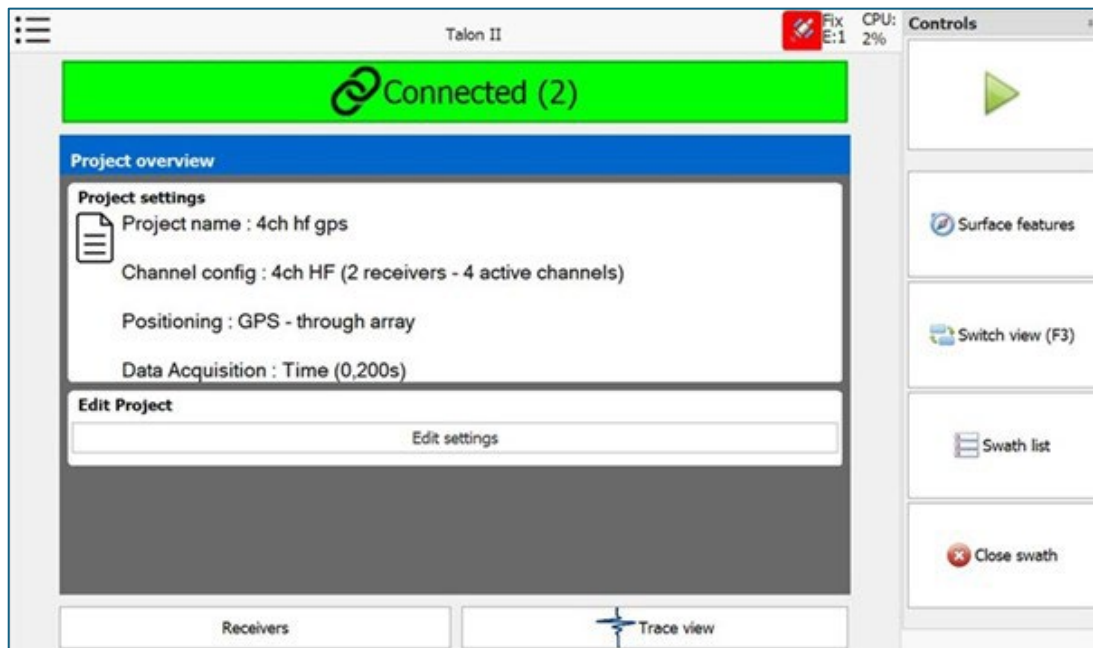

Figure 7 Project start screen
7. After settings have been confirmed for the new project, you are presented with the project overview screen, see Figure 7, from where you can start data acquisition.